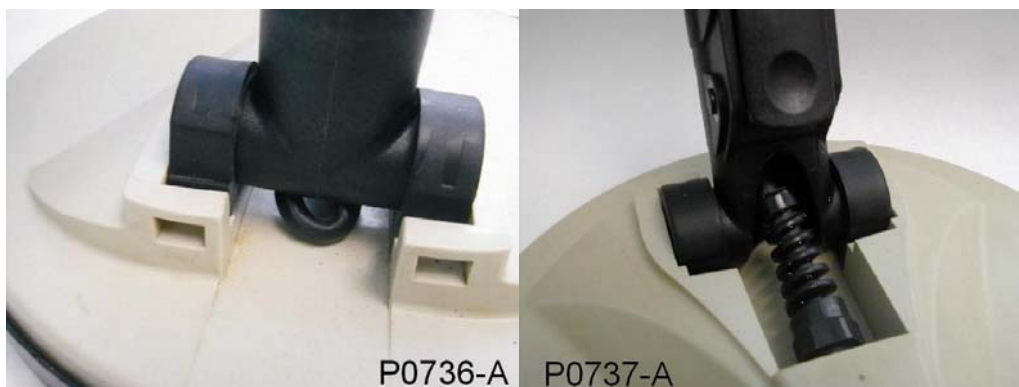

Figure 21: Lower Camlock Assembly Showing Friction Block Fitment
- Refit the lower camlock assembly to the coil top. The flat sides on the friction blocks should be facing down into the coil top. (Figure 21)